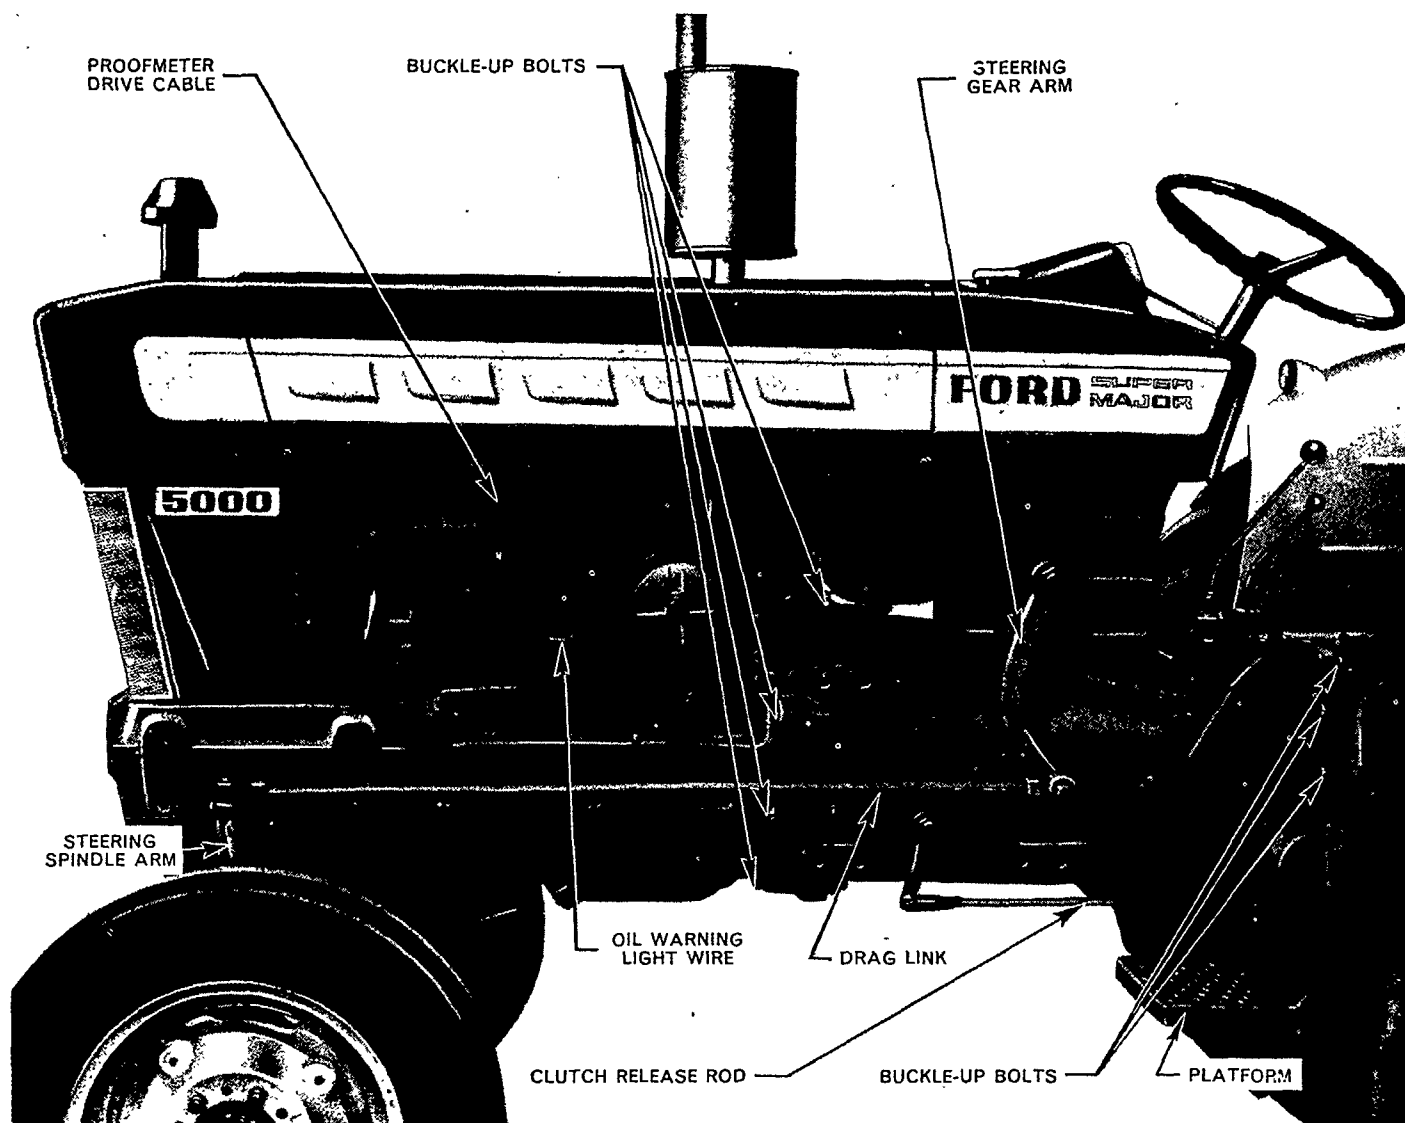

Figure 5
7. Remove the screw retaining the left-hand steering gear side cover, Figure 5.
8. Remove the locknut securing the steering drag link to the steering gear arm, Figure 5, and force the tapered pin from the tapered bore in the arm using a suitable separator.